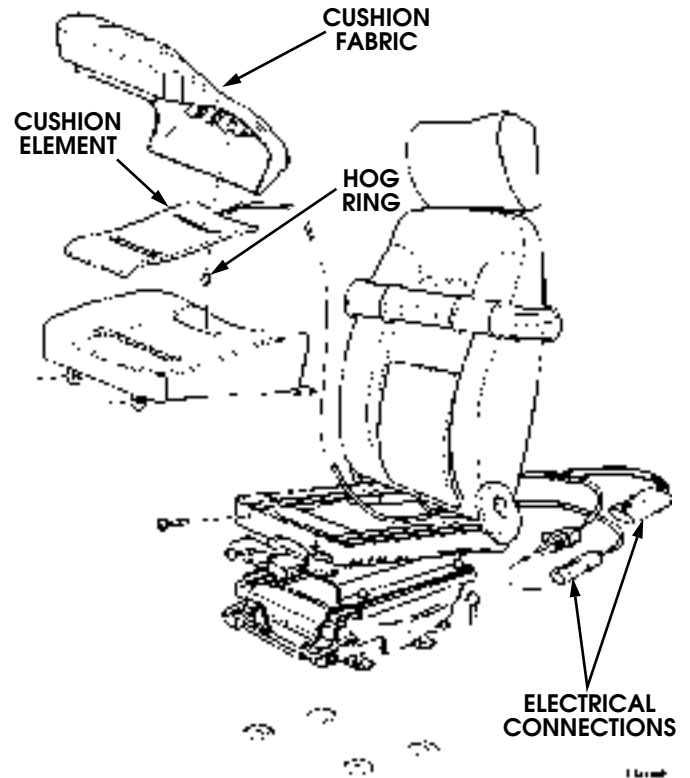

Figure 13-76: Seat Cushion Element Removal.
4. Using a screwdriver, release the fabric retaining clips and pull the fabric back to expose the fabric hold down wire and hog rings. Clip the hog rings and remove the fabric from the seat cushion (Figure 13-76).